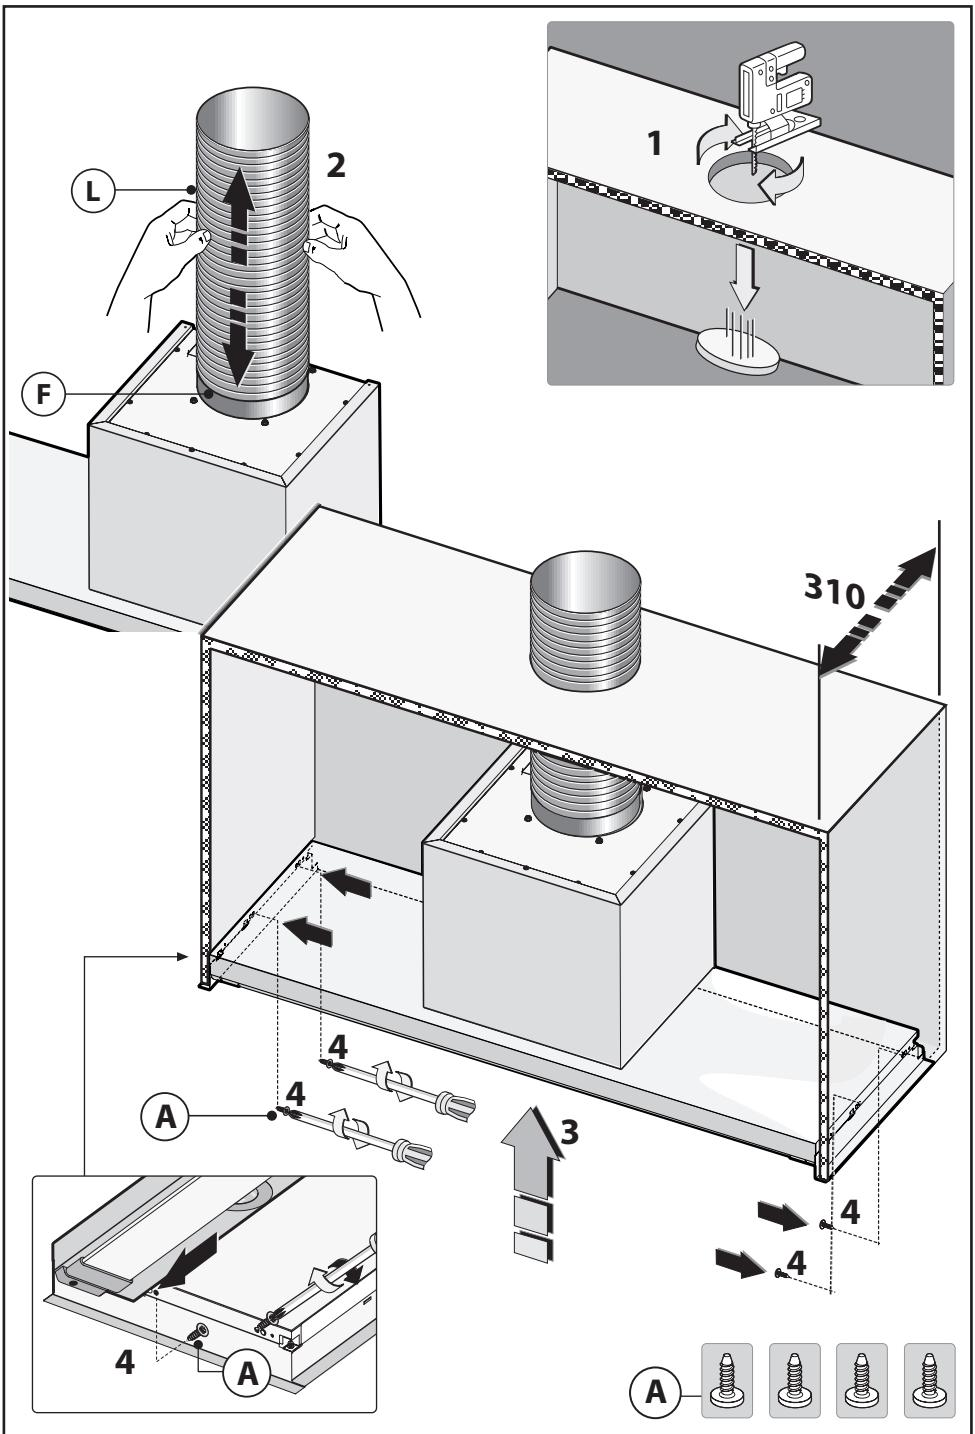

Fig.4
- In the case of assembly of the appliance in the suction version prepare the hole for evacuation of the air Fig. 4 - phase 1.
- Connect flange **F** to the air exhaust hole using flexible hose **L** Fig. 4 - phase 2.
- Align the hood to the unit and fasten it with the 4 screws **A** supplied Fig. 4 - step 3-4.